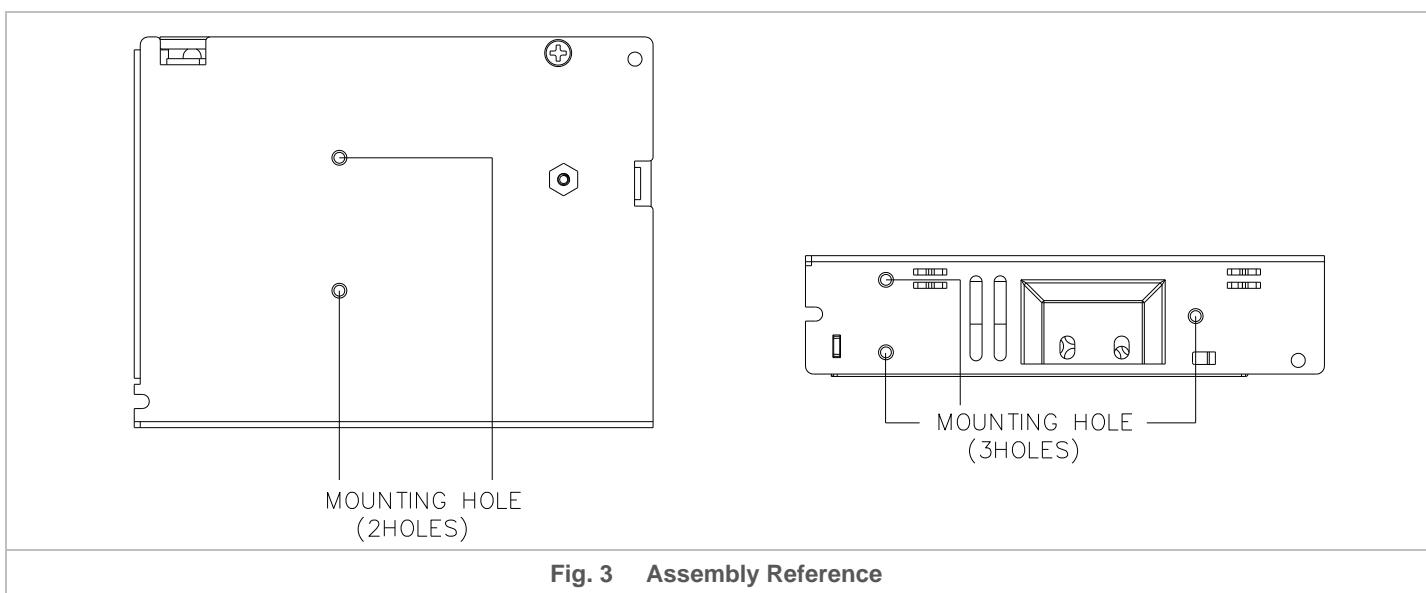

Fig. 3 Assembly Reference
- Ⓐ Base Mounting: Fig.3 shows the mounting hole locations for power supply assembly onto a metal mounting surface.
- Use flexible cable (stranded or solid) of AWG No.18-12. User should calculate and select the suitable wire specification (type/quantity/diameter) according to actual output current. The torque at the Connector shall not exceed 8 Kgf.cm. (6.94 lbf.in). The insulation stripping length should not exceed 0.275" or 7 mm. (Refer to Fig. 3).